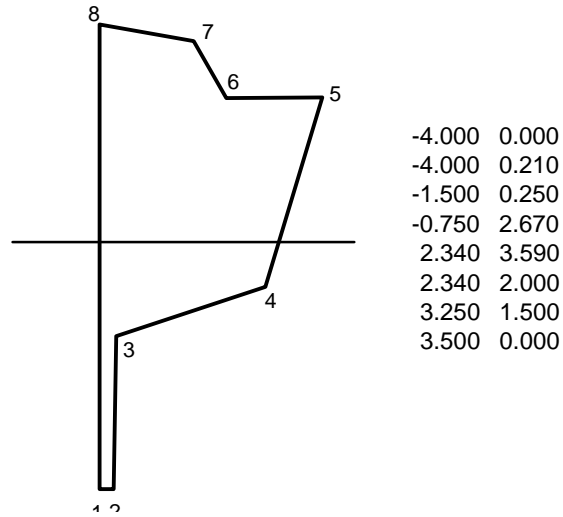

Fig. 2. Example of a section as represented in an .OFE file.
- The FIRST point on a section must be on the centerline ($Y = 0$) at the BOTTOM of the section (Fig. 2).
- The LAST point on a section must be on the centerline ($Y = 0$) at the TOP of the section (Fig. 2).